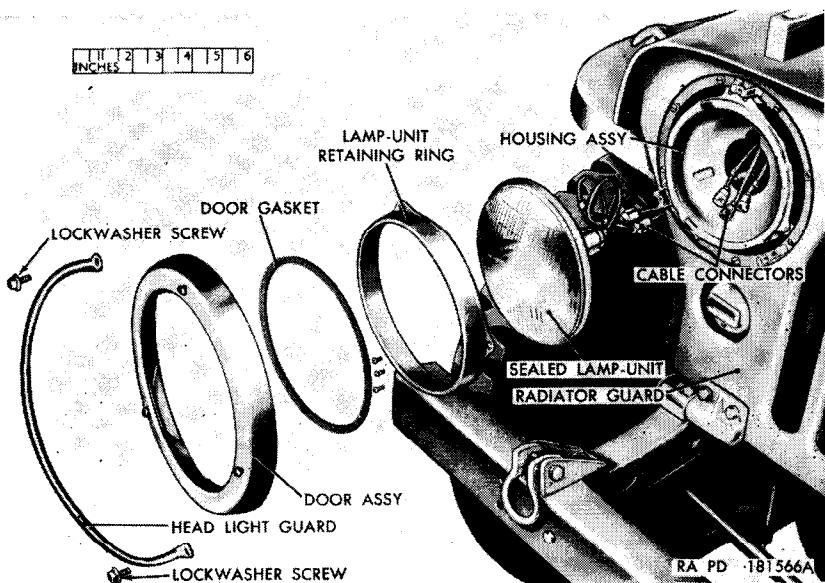

Figure 70. Headlight—partially exploded view.
- (3) *Headlights* (fig. 70). The headlights are adjustable sealed lamp-units located on the front of the vehicle and controlled by switches in the passenger compartment.
a. Headlight Sealed Lamp-Unit (fig. 70).
- (1) *Removal.* Remove two lockwasher screws securing the headlight guard to the radiator guard. Unscrew three screws securing the door assembly to the housing assembly and remove the door and door gasket. The screws are fastened in the door to prevent loss. Loosen the three screws securing the lamp-unit retaining ring to the housing assembly, and remove the retaining ring by turning counterclockwise. Pull the sealed lamp-unit from the housing. Pull the three cable connectors from the clips in the housing, and disconnect the cables at the connectors. Remove the sealed lamp-unit.
- (2) *Installation.* Connect cable Nos. 17, 18, and 91 on the sealed lamp-unit to cable Nos. 17, 18, and 91 at the connectors in the housing assembly and clip the connectors in the housing. Place the sealed lamp-unit in the housing with the projections on the edge of the lamp-unit in the notches in the rim of the housing. Place